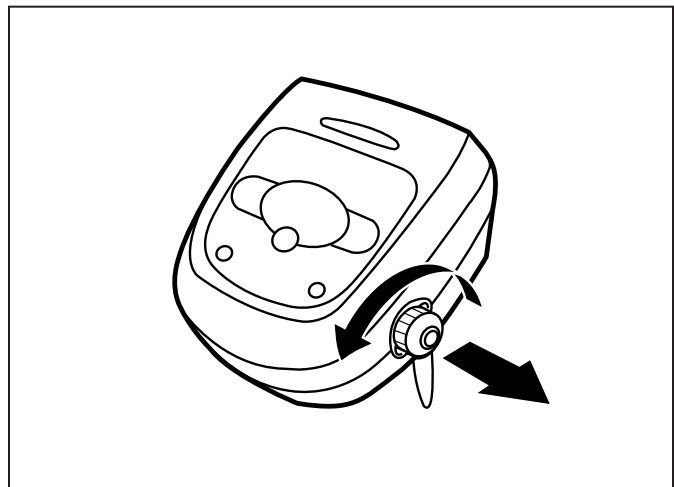

Figure 10. Remove Protective Cap
- **U.S.:** Per NEC® requirements, keep the control box at least five (5) ft. (1.5 m) from the edge of the pool. **CANADA:** Per CEC requirements, keep the control box at least three (3) m (10 ft.) from the edge of the pool.
1. Unscrew the protective cap for the floating cable from the side of the control box by turning counter-clockwise (Figure 10).